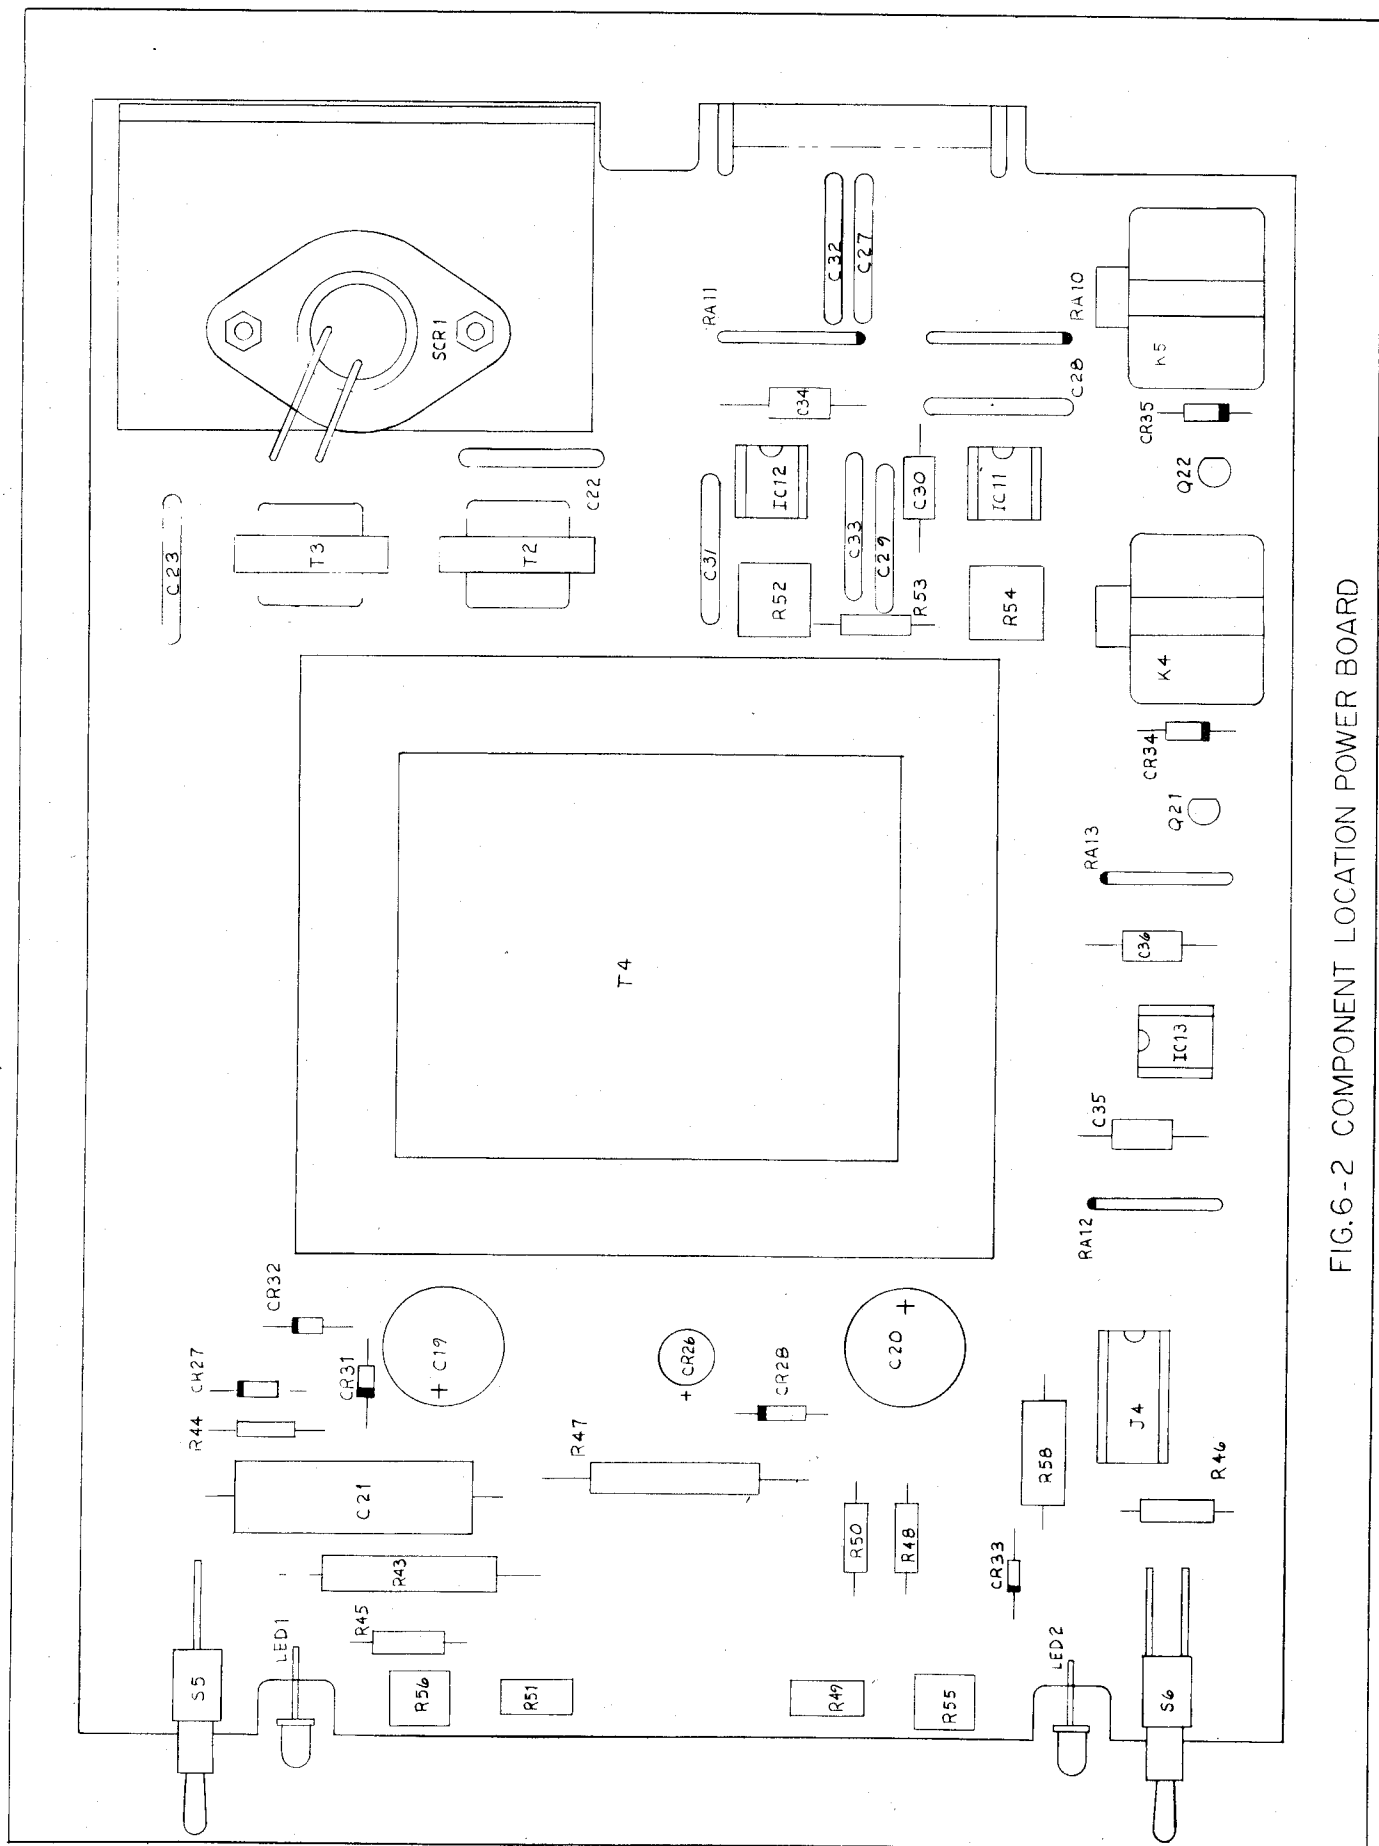

FIG.6-2 COMPONENT LOCATION POWER BOARD
6.9 Thermocouple Circuit (Refer to Fig. 5-8 and Fig. 6-2)
6.10 Thermocouple Process Control (Refer to Fig. 5-9 and Fig. 6-2)